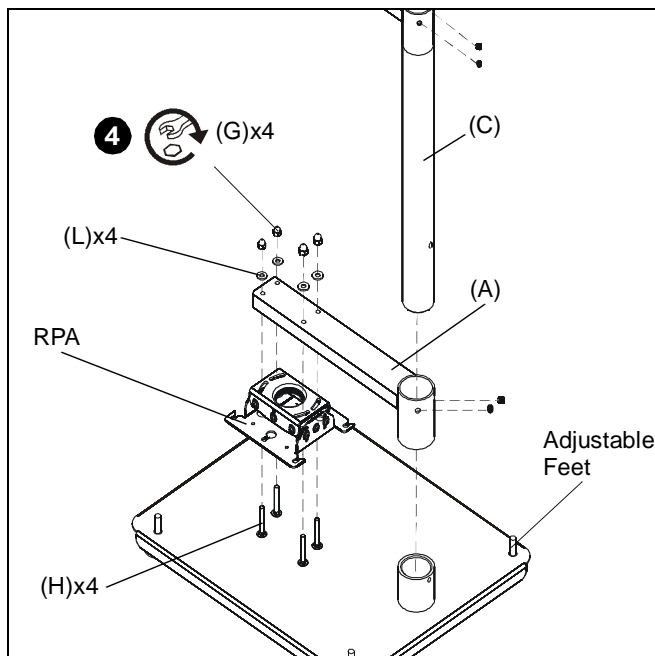

Figure 1
1. Set the base plate (B) on a flat stable work surface and adjust the feet as necessary.
2. Thread the 1-1/2" pipe section (C) into the base plate and tighten.
3. Secure NPT pipe to base plate using one 5/16-18 x 3/8" set screw (I).
4. Attach RPA to projector arm (A) using four 1/4-20 X 1-1/2" carriage bolts (H), four 1/4-20 acorn nuts (G) and 1/4" flat washers (L). (See Figure 1)